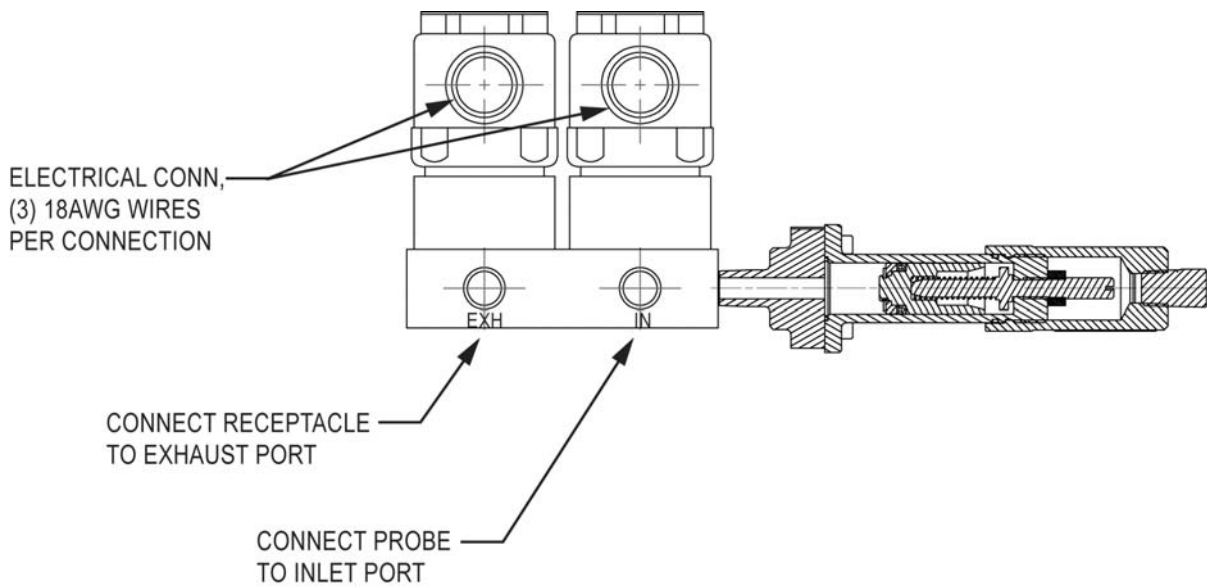

Figure 1—Direct hookup to a dual-coil solenoid
3. Connect the CS Sample Extractor directly to the probe using any required tubing and or fittings (Figure 1, page 6).